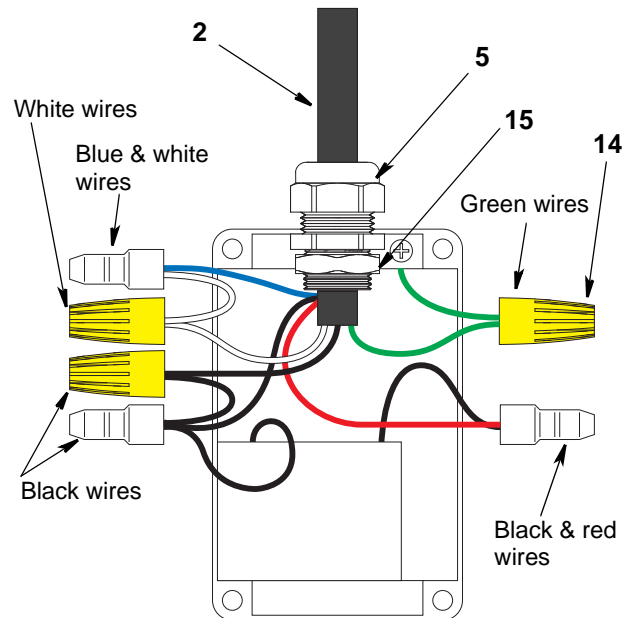

FIG. 5 Motor junction box with new motor power cable
the motor junction box, and secure with the supplied nut (15). See FIG. 5.
6. Connect the motor power cable (2) wires (green to green, white to white, and black to black) using the supplied wire connectors (14).